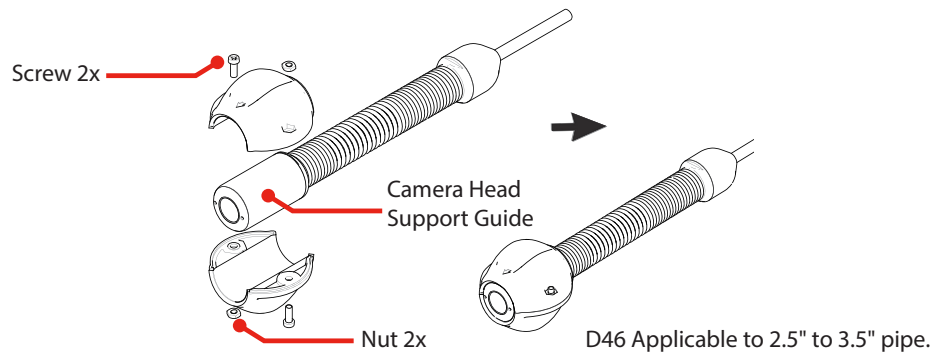

FIG. 9
1. **Install 26 support guides (Figure 9).** Mount the 40 support guide onto the stainless steel camera head. Then tighten the screw with a screwdriver.